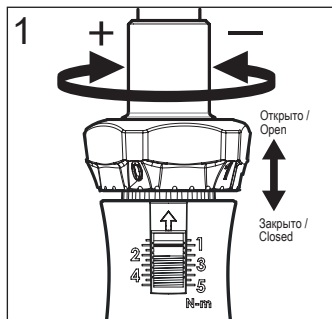

Рисунок 1 / Figure 1
To set the required tightening torque values, move the fixing nut (2) to the "open" position, turn it clockwise to increase the tightening torque, counterclockwise to decrease it (Figure 1).